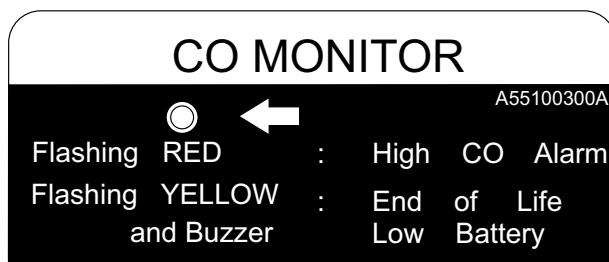

Figure 2. CO Status LED (RED)
- **NEVER** ignore the **RED flashing** status LED (**carbon monoxide sensor**) on the generator (Figure 2). Move to an open area **immediately**. This feature is only available on the GA9.7HEAC2. Reference the CO Overview section in this manual.